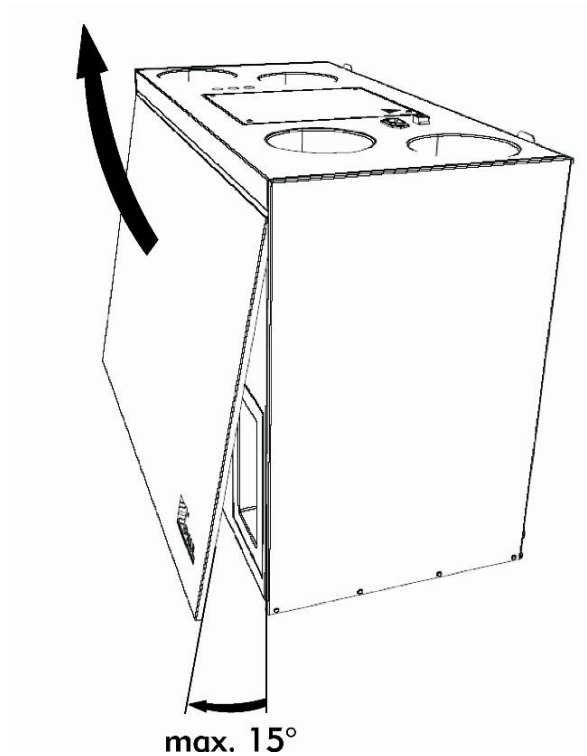

Figure 33: Opening the front plate
3. Open the front plate in a corner from maximally 15° according to figure 33.